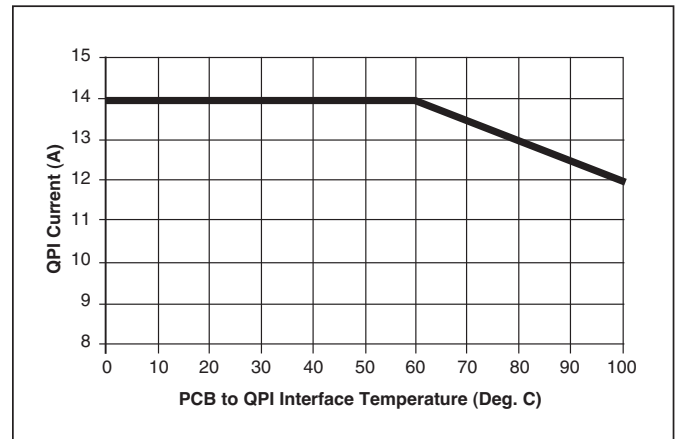

Figure 5 – QPI-6 current derating curve.
- -40° to +100°C PCB temperature (See Fig. 5)
Note 3 - Refer to Figure 5 for current derating curve.
The current derating curve shown in Figure 5 should be used when the PCB temperature in close proximity of the QPI-6 exceeds 60°C. For example, the QPI-6 will support up to 13 A of current or 528 W from a 48 Vdc bus at an 80°C interface temperature. Temperature should be measured at the PCB interface to the QPI-6 on the Bus +/- pads or the QPI+/- pads. Refer to Figures 9, 10 & 12 for PCB layout recommendation.